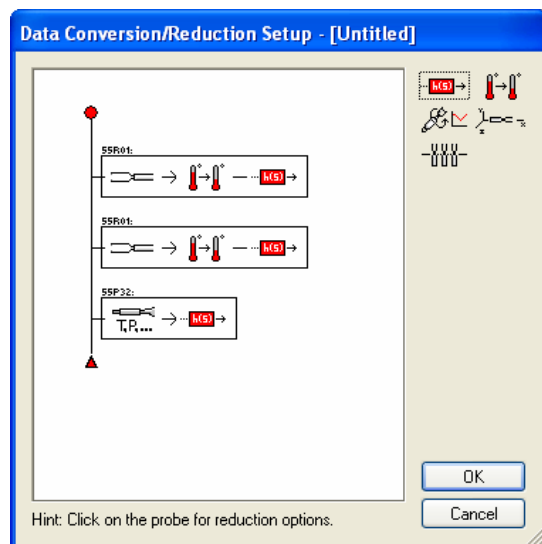

Figure 21: Applying temperature correction and linearization of probe readings.
5. Repeat steps (2) to (4) for the second listed probe (Probe 2).
6. Repeat steps (2) to (4) for the reference temperature probe (55P32). In step (4) leave the “Apply temperature correction” checkbox unchecked.
8. Do the same with the temperature probe but only click the “Linearization” icon. The final “Data Conversion/Reduction Setup” is shown in Figure 21.